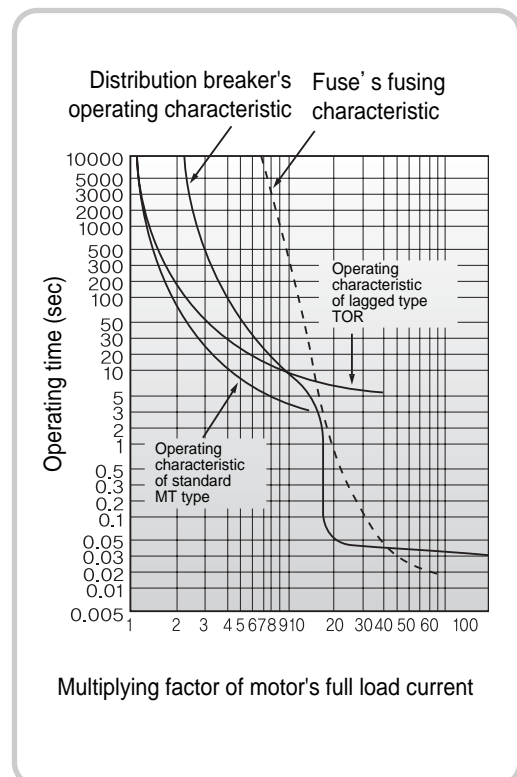

Fig. 55. MT and distribution breaker or protection cooperation of fuse
3. Large motor protection cooperation of starting current It is easy to take protection cooperation with fuse or distribution breaker when applying to large motor of starting current, and protection cooperation of motor and short circuit including circuit accident can be acquired. (refer to fig. 55)
Enough preparation is required for using TOR for motor protection with occasional driving. It is difficult to expect optimized protection about motor with occasional driving by only TOR when there is big difference between thermal time constants of motor and TOR, it is necessary to find solution about each case and apply it. It is good to select control current based on motor's continuous rating when protection is prior with limiting somewhat motor's available performance, it is necessary to control large control current with taking a little loss of overload protection when you want to take advantage of maximum short-term output power. Time constant of standard TOR in this case, but it is not necessary to select large control current with using lagged type TOR. Selection of TOR's control current requires different preparation for showing motor's performance enough when intermittence is irregular, but proper selection is possible when it's periodic as following. As a reference, fig 55 shows heater temperature increase of TOR when occasional driving.